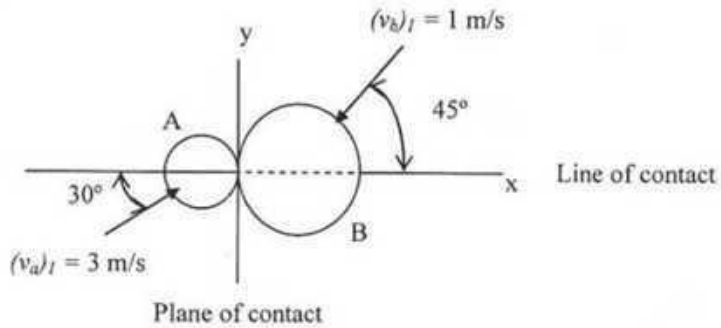

Figure 8
14) Figure 8 shows that the magnitude and direction of velocities of two frictionless balls A and B, having mass of 1 kg and 2 kg respectively, before they strike each other. Assuming  $e = 0.75$ , determine the x and y components of the final velocity of each ball just after collision.